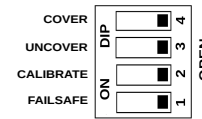

Figure 19: Cover Delay Switch Position
- Ensure that all DIP switches are in OPEN position as shown in Figure 19. Make sure that STATUS LED is not blinking for Error.
1. Ensure that all DIP switches are in OPEN position as shown in Figure 19. Make sure that STATUS LED is not blinking for Error.